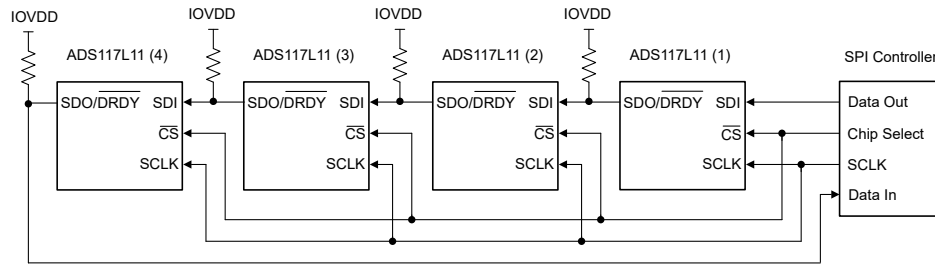

Figure 8-36. Daisy-Chain Connection
Figure 8-36 illustrates four devices connected in a daisy-chain configuration. The SDI of ADS117L11 (1) connects to the host SPI data out, and $\text{SDO}/\overline{\text{DRDY}}$ of ADS117L11 (4) connects to the host SPI data input. The shift operation is simultaneous for all devices in the chain. After each ADC shifts out the conversion data, the data of SDI appears on $\text{SDO}/\overline{\text{DRDY}}$ to drive the SDI of the next device in the chain. The shift operation continues until the last device in the chain is reached. The SPI frame ends when $\overline{\text{CS}}$ is taken high, at which time the data shifted into each device is interpreted. The $\text{SDO}/\overline{\text{DRDY}}$ pin must be programmed to data output-only mode.
Figure 8-38 shows the detailed input data sequence for the daisy-chain write register operation of Figure 8-36. 32-bit frames for each ADC are shown (16 bits of data, with the STATUS and CRC bytes enabled). Command operations can be different for each ADC. The read register operation requires a second frame operation to read out the register data.
Figure 8-39 illustrates the clock sequence to read conversion data from the device connection in Figure 8-36. This example illustrates a 24-bit output frame (16-bits of data, with the CRC byte enabled). The output data of ADC (4) is first in the sequence, followed by the data of ADC (3), and so on. The total number of clocks required to shift out the data is given by the number of bits per frame × the number of devices in the chain. In this example, 24-bit output frames × four devices result in 96 total clocks.